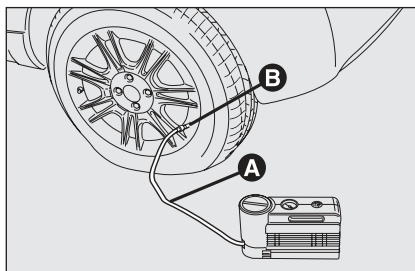

fig. 4
- Pull up the handbrake. Loosen tyre inflation valve cap, take out the filler hose **A**-fig. 4 and screw the ring nut **B** on the tyre valve;